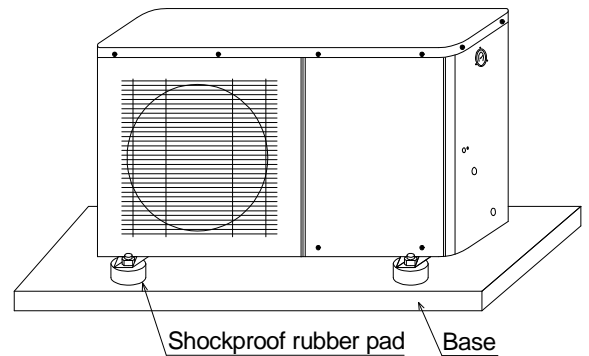
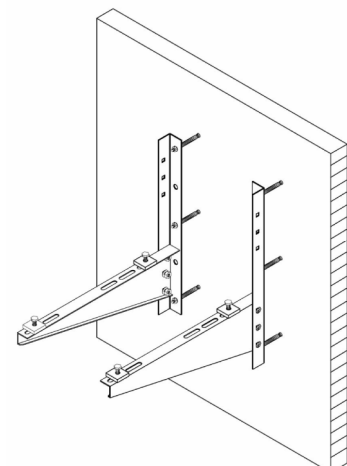

fig.1.1
fig 1.2
- a. Mount the unit on the selected base and install the 4 black shockproof rubber pads under the 4 sheet of the unit to reduce vibration and sound transmission to the base. (Fig 1.1). For GT-SKR010B, GT-SKR015B, GT-SKR020B, users may use brackets to install the unit on wall (Fig 1.2)